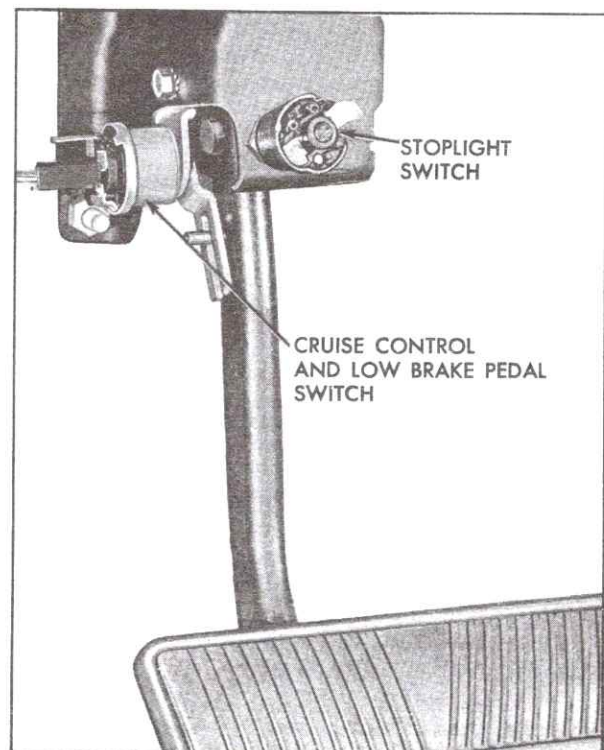

Fig. 5-8 Stoplight Switch Location
2. Remove front locking nut from switch, Fig. 5-8.
2. Install front locking nut, Fig. 5-8.